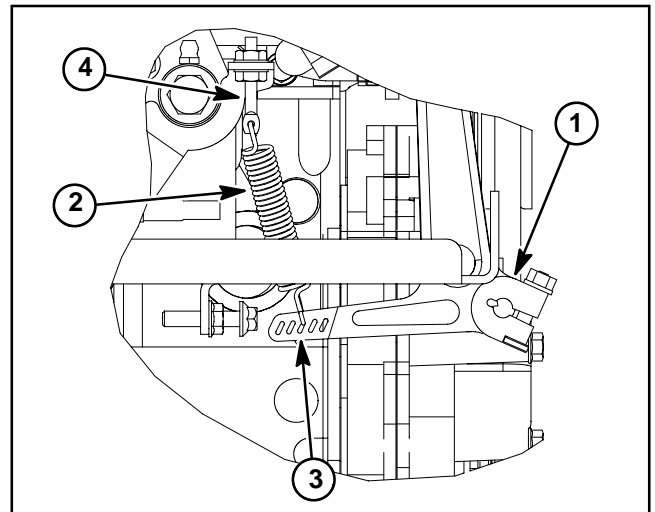

Figure 21
2. If removed, attach governor spring to governor link rod and center slot in engine governor lever (Fig. 21).